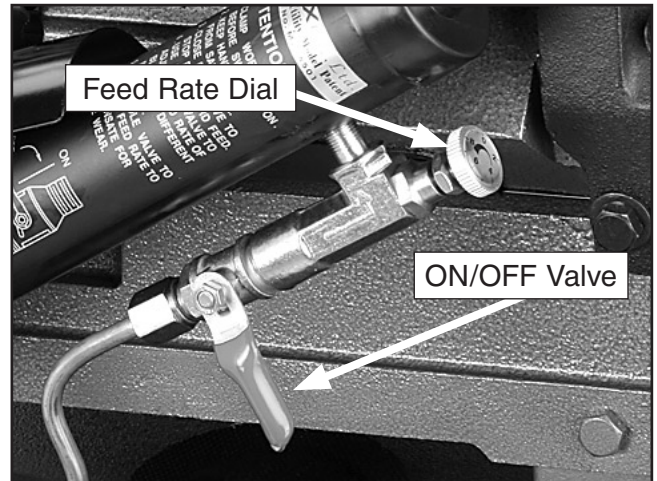

Figure 21. Feed rate dial.
4. Close the feed ON/OFF valve **Figure 21**, to lock the headstock and blade a few inches above the workpiece.
6. Slowly rotate the feed rate dial clockwise to a slow feed rate until the saw begins to cut the workpiece (see **Figure 21**).